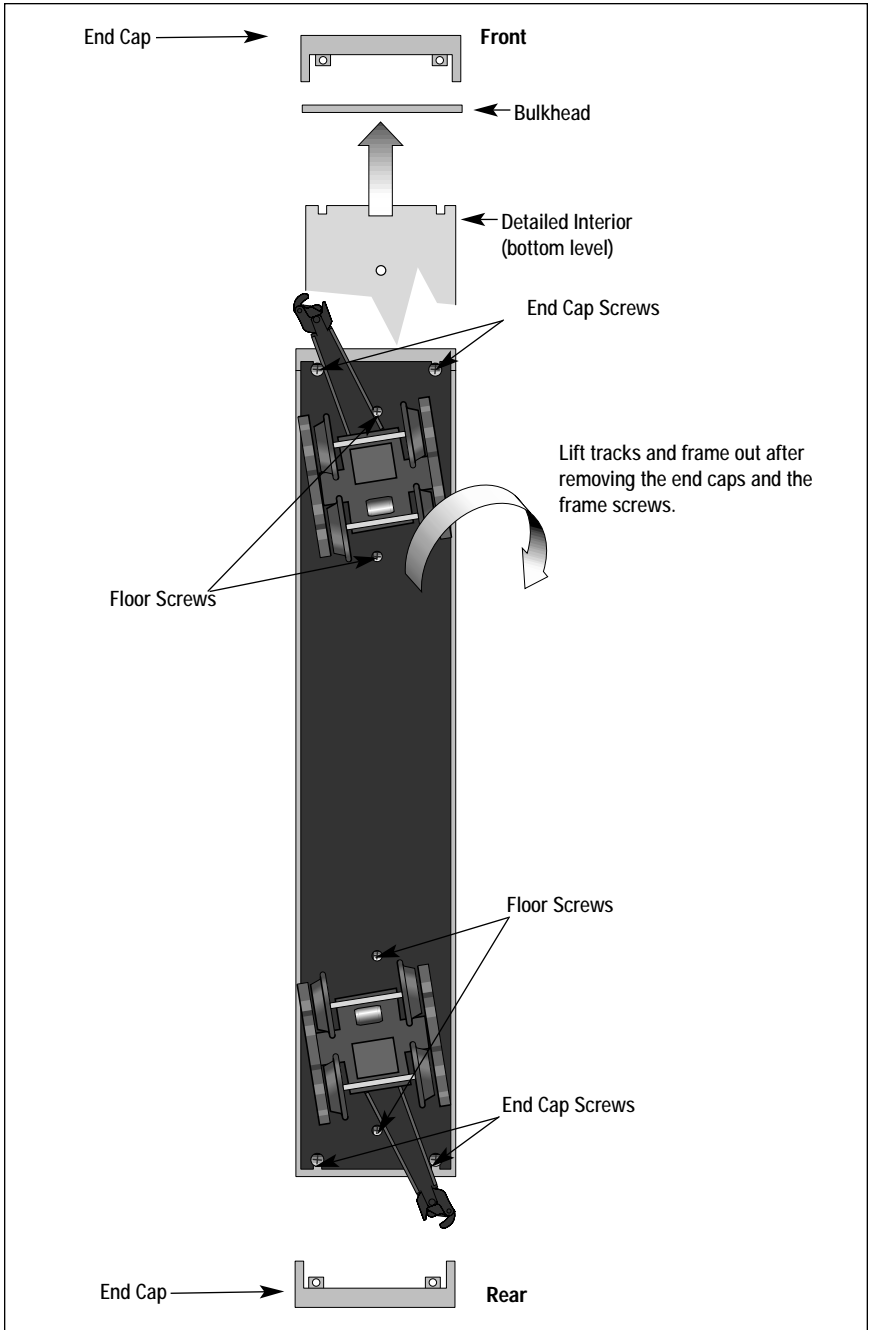

Figure 10. Removing the end caps, frame, and detailed interior
1. Loosen the four end cap screws and pull the end caps off the car body. Also remove the inner bulkhead behind the end cap. See Figure 10 for locations.
2. Remove the four floor screws on the centerline of the frame near the ends of each truck. These are also indicated in Figure 10.